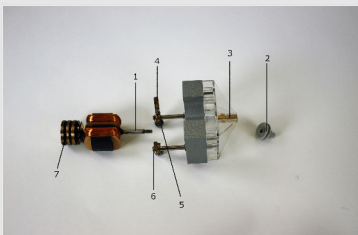
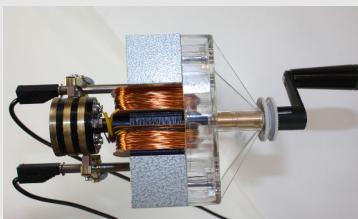

Fig. 2
Fig. 3
- Assemble the motor attachment according to Fig. 2 and Fig. 3 on the next slide.
- Place the brushes [4] of the motor attachment as shown in Fig. 3 against one uninterrupted slip ring each.